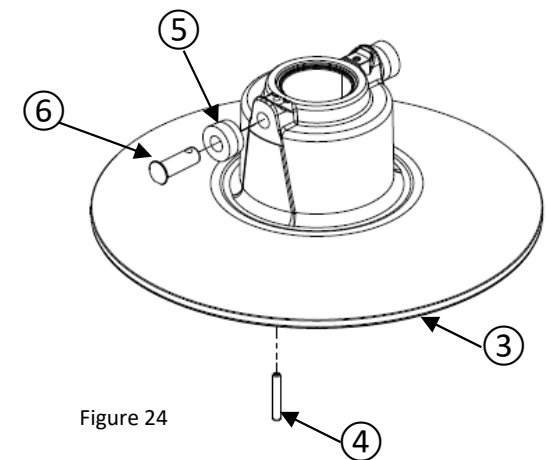

Figure 24
- Remove the 2 rollers ⑤ and the 2 roller pins ⑥ from the sliding sheave ③ (figure 24).